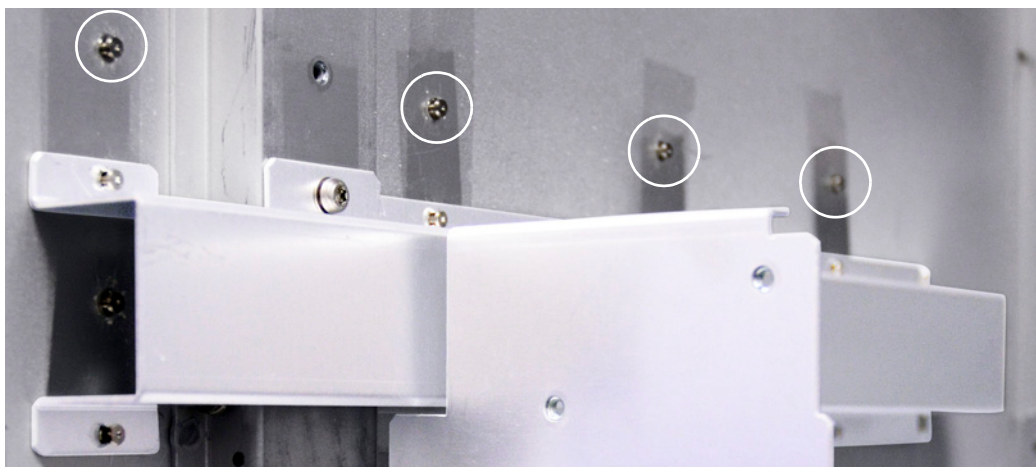

Figure 16 Top row of rivets (left side oven rack shown)
- 4 Install the left side rack onto the top row of support rivets. Be sure all eight rivets fit into each of the holes in the left side rack (Figure 16).